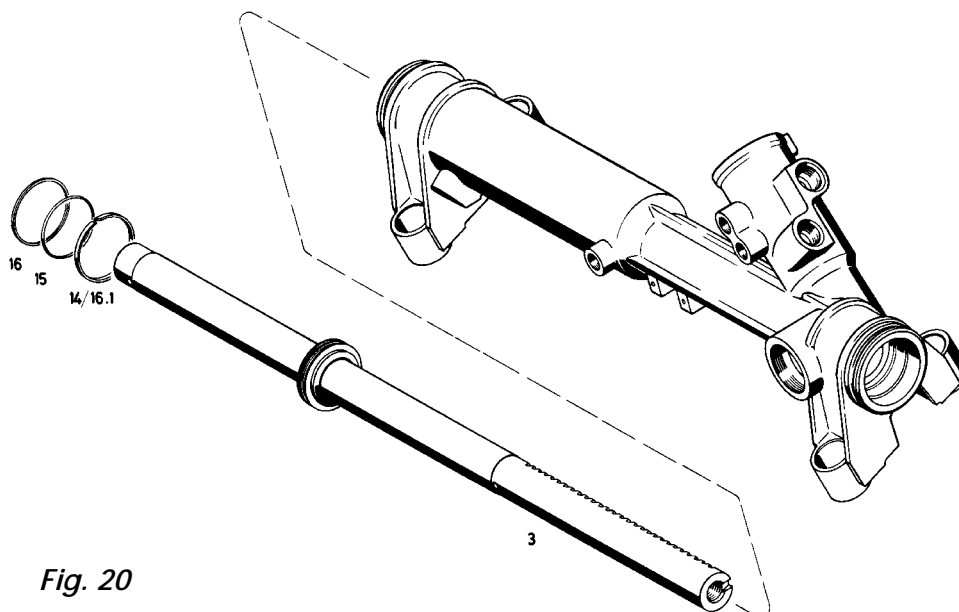

Fig. 20
Mount the O-ring (15) and the sealing ring (16) to the piston (14) of the rack (3) (see Fig. 20).
Mount the additional guide ring (14 or 16.1) (see Fig. 20).